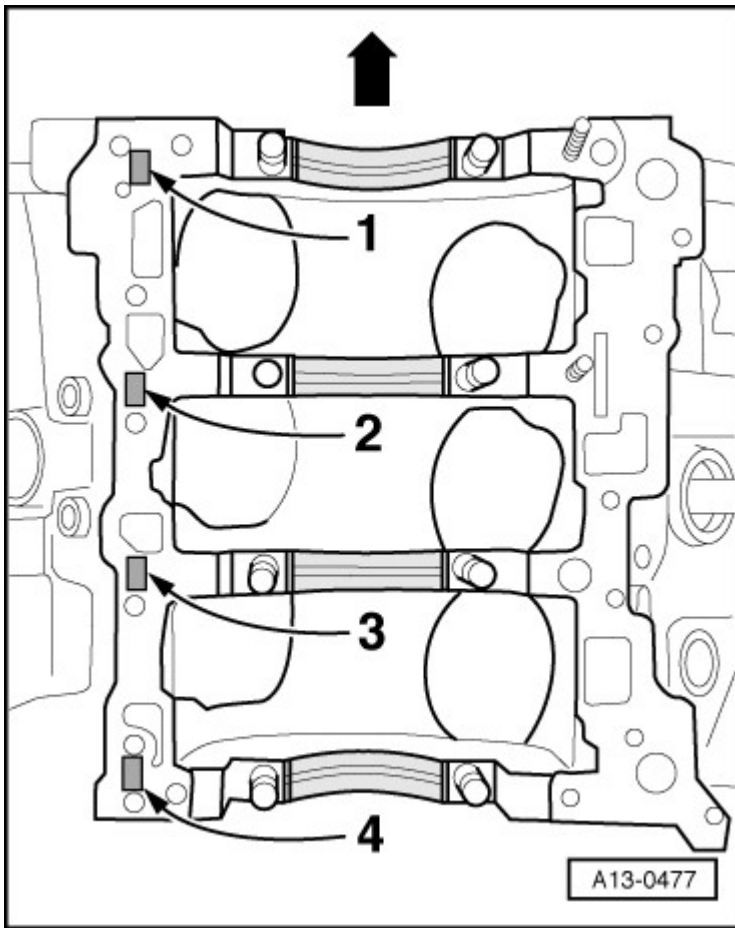

Fig. 9: Identifying Application Of Crankshaft Bearing Shells For Cylinder Block
- Insert new bearing shells for cylinder block with proper color marking, refer to **Fig. 9**